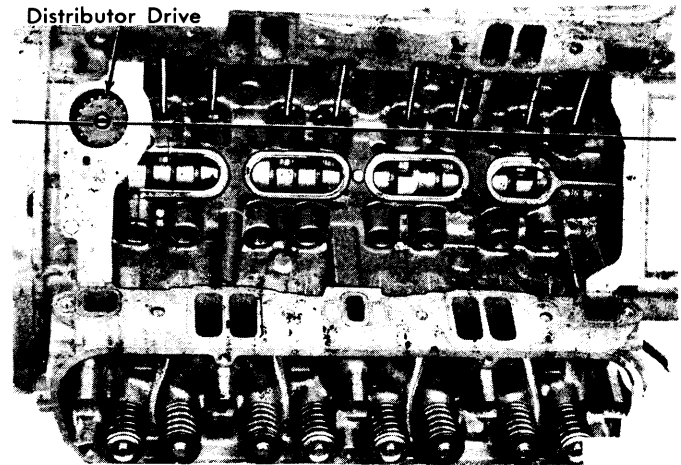

Fig. 18 Alignment of Distributor Gear with Engine for Distributor Timing
**Distributor Timing** — Before installing distributor-oil pump drive shaft, time engine as follows: Rotate crankshaft so number one cylinder is at top dead center on firing stroke. Straight line on vibration damper should be under "O" on timing indicator. Coat shaft and drive gear with engine oil. Install shaft so that when gear spirals into place, it will index with oil pump shaft, so slot in top of drive gear will point straight down lifter bosses, parallel with camshaft (see Fig. 18).